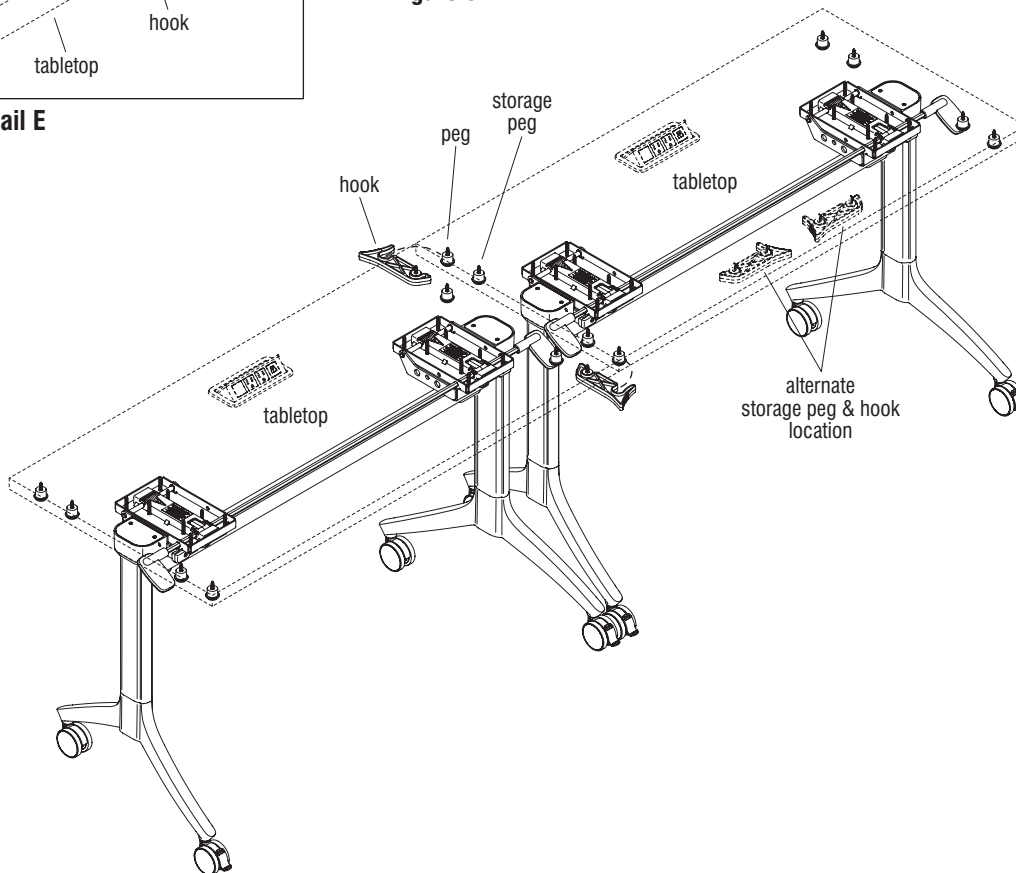

Figure 4 - Side-to-Side Ganging
5. Move the two tables together side-to-side or back-to-back based on the desired configuration, such that the two pair of ganging pegs face each other. Swing the hooks to the opposite peg to securely gang tables together (Figure 4, Figure 5 on page 22 & Details D & E).
6. Position and snap any extra pegs onto the storage pegs. For hook storage, when tables are not paired, disconnect the table edge ganging hooks and move them to the storage pegs mounted either at each corner of the table or to the front user side of the table (Figure 4 & Figure 5 on page 22).